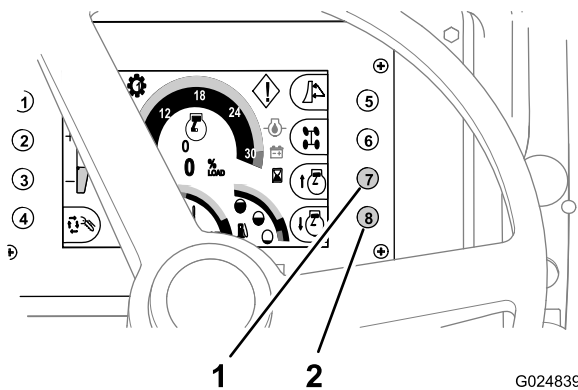

Figure 38
- To **increase** the engine speed, push button 7 on the command center (Figure 38).
- To **decrease** the engine speed, push button 8 on the command center (Figure 38).